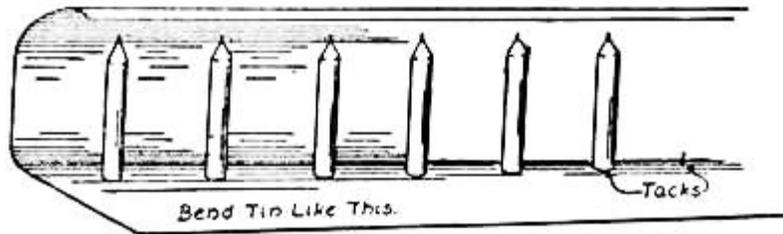

FIG. 320.—The Footlights.
**In lighting the Theatre**, to have all wood surrounding lights covered with tin, and not to use candles or matches around inflammable substances. Figure 320 shows a satisfactory arrangement of